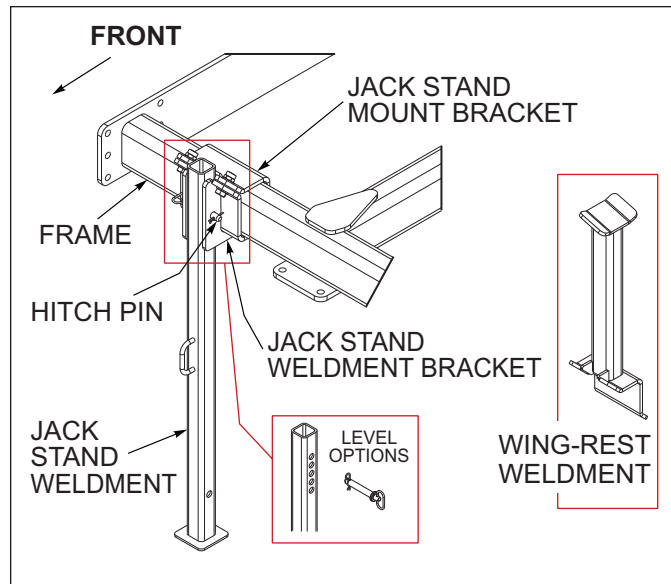

Figure 3-1: Front Jack Stand
2. Insert the Jack Stand Weldment through the bottom of the Jack Stand Weldment Bracket with the handle facing out and pin at desired level (top five holes), with 3/4 x 4 Hitch Pin and hair pin. (See Figure 3-1.)
1. With the Jack Stand Weldment Bracket positioned on the bottom side of the front Frame, (clamp facing out), attach the appropriate Wing-Rest Weldment using 3/4-10 x 2 Bolts, 3/4 Flat Washer and 3/4-10 Locknut. (The Wing-Rest Weldments have right hand and left hand designations. The left hand Wing-Rest Plate Stops slope down toward the left and the right hand Wing-Rest Plate Stops slope down toward the right. See Parts Manual for Wing-Rest Weldments according to model number.) (See Figure 3-1.)